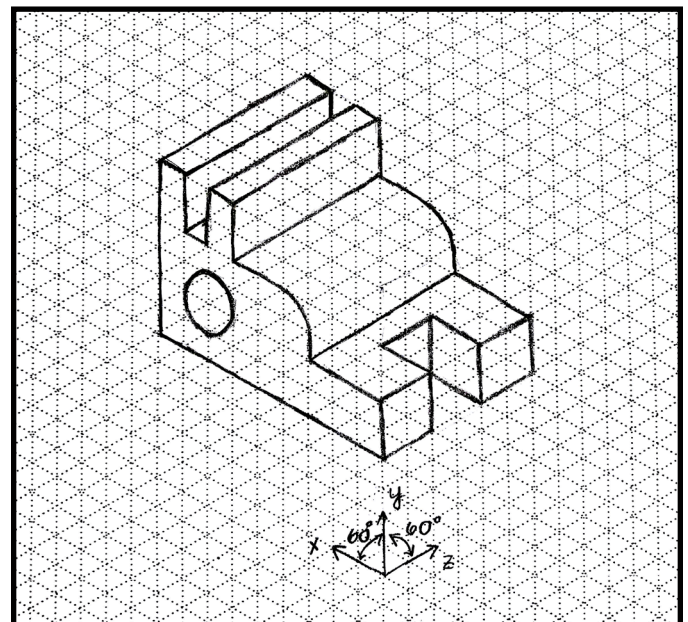

Figure 4.15 - Isometric Object
1. Construct a multiview drawing of the object in figure 4.15.